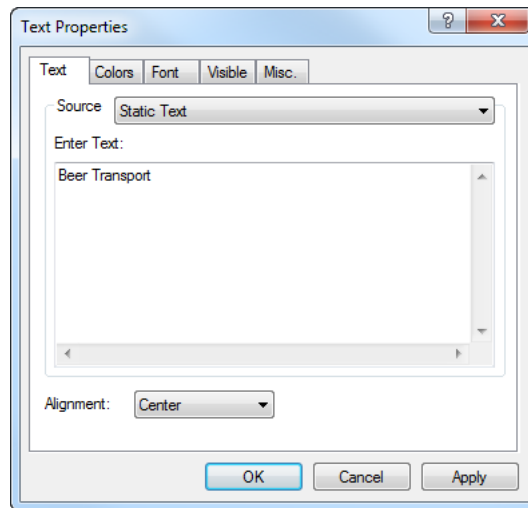

Figure 6.9: The text tab of the text properties dialog box
- ▶ select 'Center' from the 'Alignment' drop-down list (see Figure 6.9),